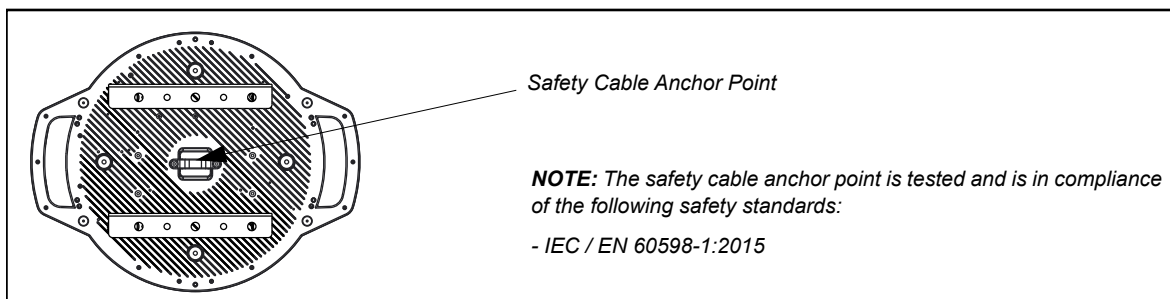

Figure 5: Safety Cable Installation / Luminaire Hanging
- Step 3. Attach safety cable (as required) as follows (refer to Figure 5):